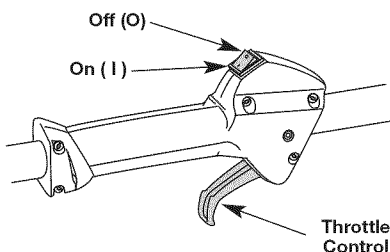

Fig. 7
NOTE: There is no need to turn the unit on. The On/Off Control is in the ON (I) position at all times (Fig. 7).
2. Press and hold the On/Off Control in the OFF (O) position until the engine comes to a complete stop (Fig. 7).